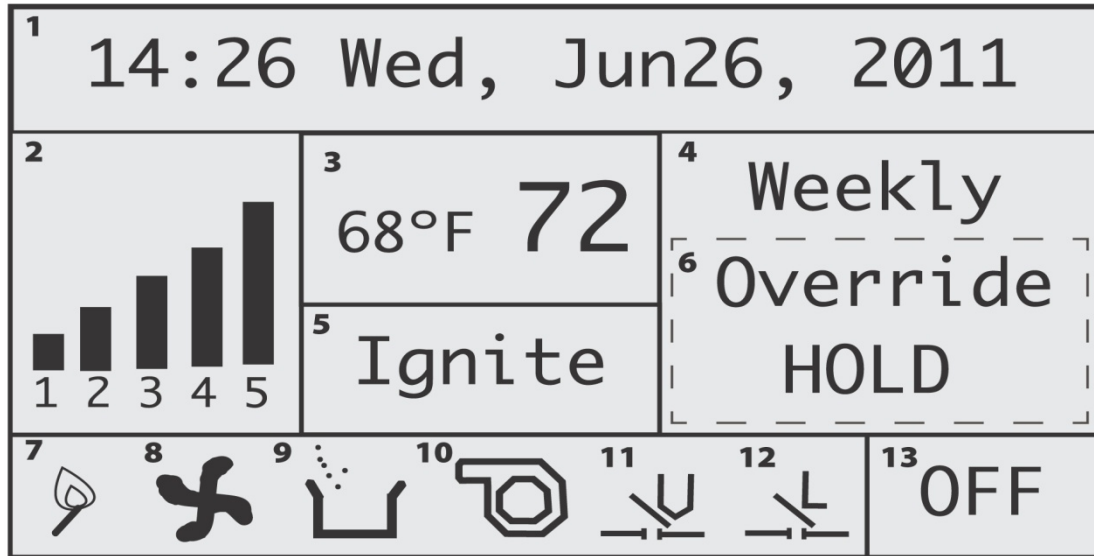

Figure 19
When the stove turns on, the ignition indicator and the combustion blower indicator will appear on the screen (images and 8 in Figure 19 on page 23). "Ignite" will also appear in the work stage box on the screen. After approximately four seconds, the vacuum switch indicator will appear. Also note that the hopper lid open indicator (limit indicator) will appear anytime the stove's hopper lid is properly shut and sealed.
9. With a schedule set, make sure that the main display screen on the controller reads “Weekly” (for operating in the Weekly Mode) and that the unit is turned on. The schedule will not take effect unless the unit is turned on in the Weekly Mode. (See button 13 on Figure 19.)